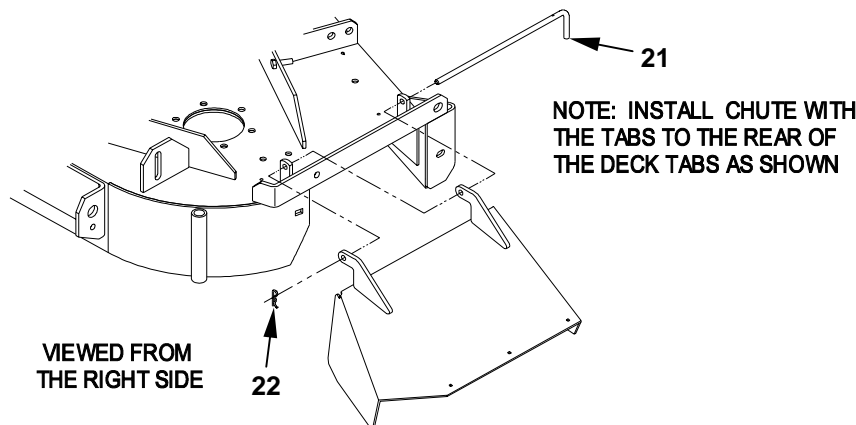

FIGURE 9
6. Install the discharge chute using the chute pivot pin and hairpin (See Figure 9).